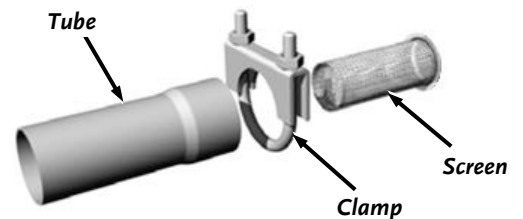

Figure 3
There is a Tube, Screen, and Clamp included in the Spark Arrestor Kit (**Figure 3**). The Kit is shipped in the Product Package. The Instructions included in the Kit are not used this application.
1. Remove the Spark Arrestor Parts from the Product Package (**Figure 3**).